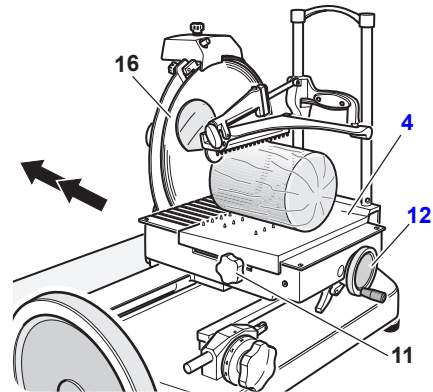

Figure 12-3
- Use the product holder operating handwheel (12) or the fast forward knob (11) to move product holder (4) close to knife blade (16) (Figure 12-3).